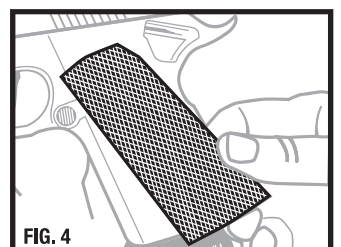

FIG. 4
- Remove left grip cover by lifting the grip cover tab (Fig. 4).